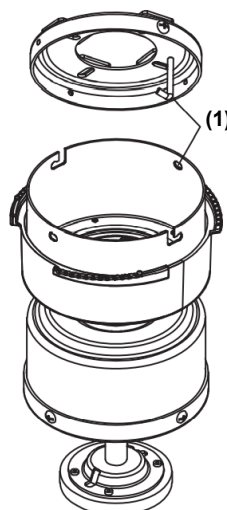

Fig. 3
- Lift the fan assembly up to the mounting bracket. Hang the fan assembly onto the J-hook (1) of the mounting bracket. (Fig.3)